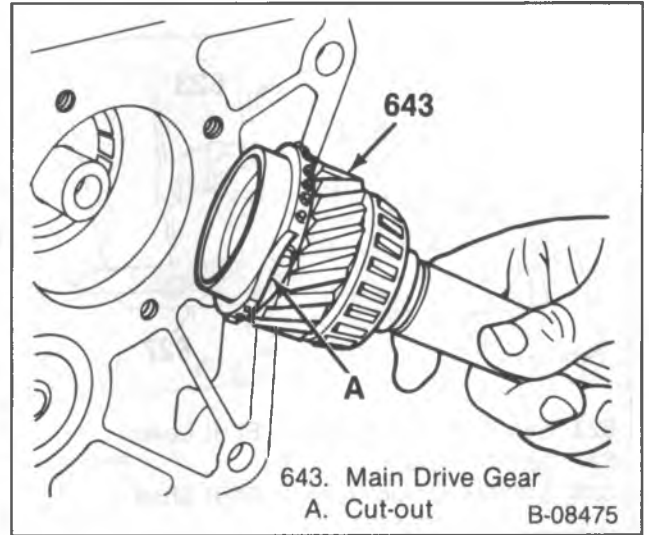
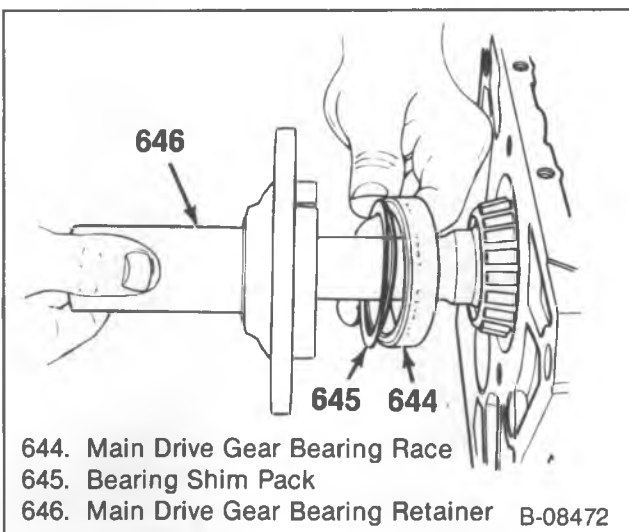

Figure 11—Main Drive Gear Cut Out
Figure 10—Main Drive Gear Shim Pack
11. Bearing race (644) and the shim pack (figure 10).
12. Main drive gear (643).
- Turn the gear so the cut-out is toward the countergear (figure 11).